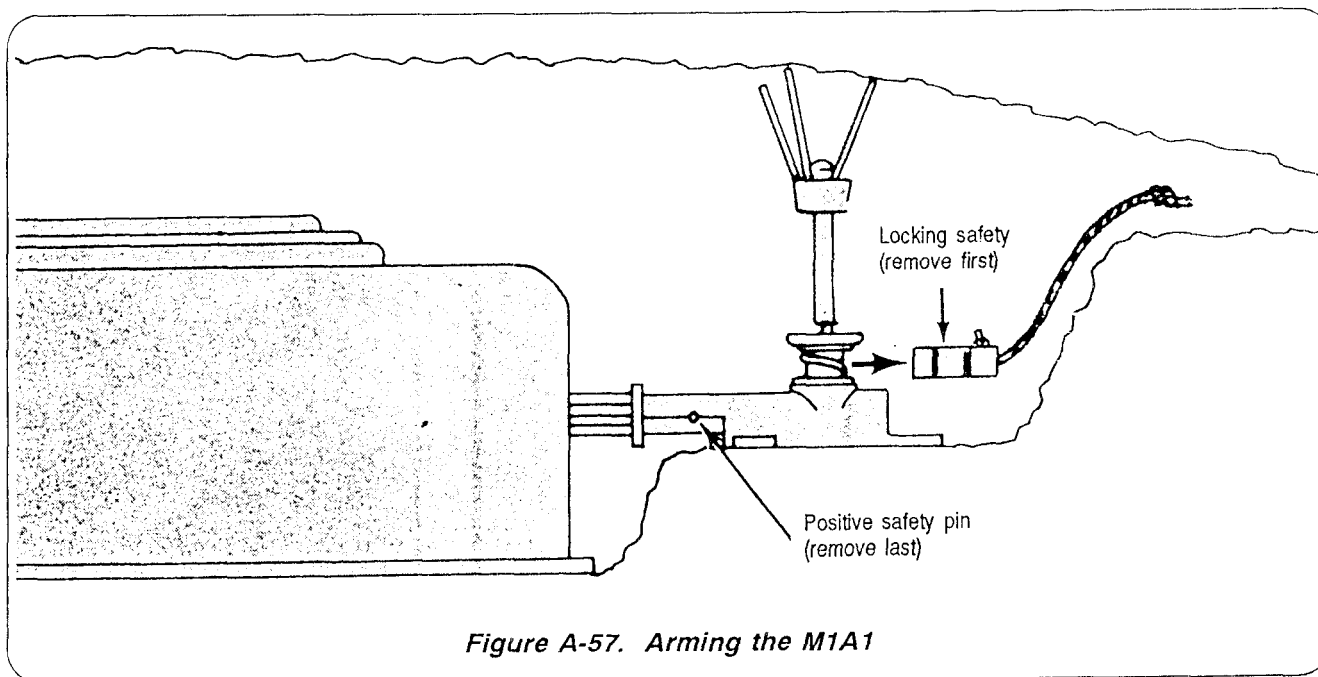

Figure A-57. Arming the M1A1
7. Remove the positive safety pin (Figure A-57). Camouflage the mine and FD. Leave the three-pronged head above ground level.
10. Place the mine in the SAFE (S) position